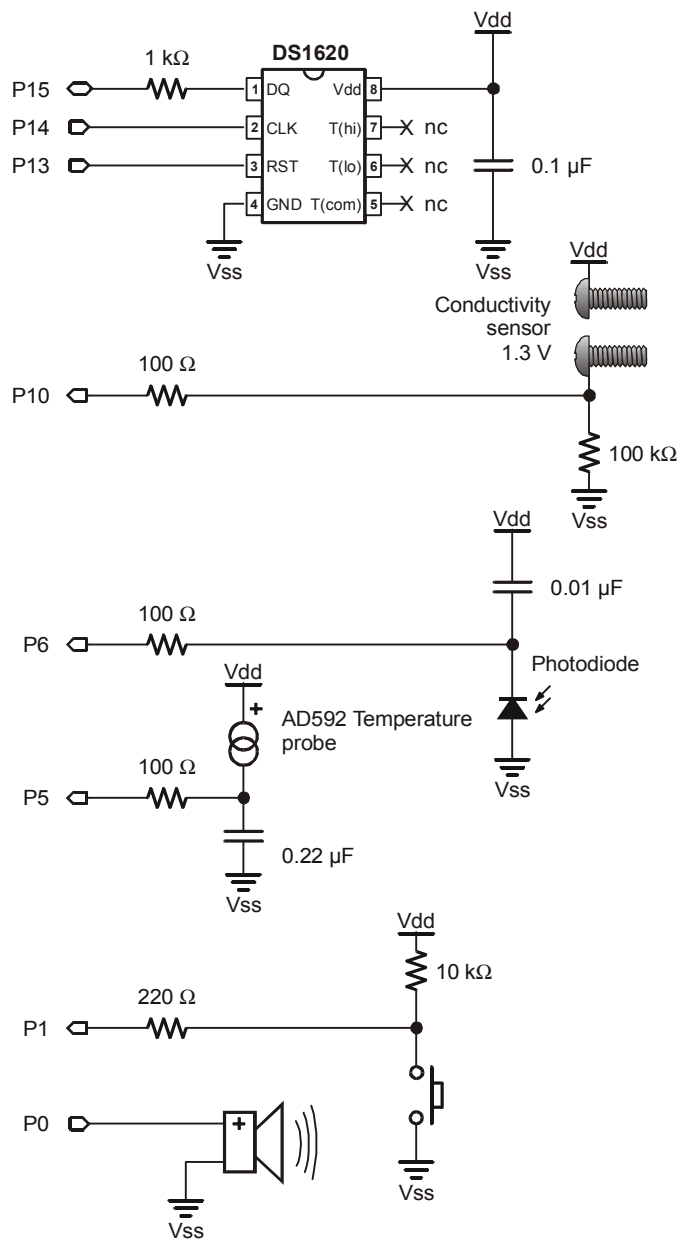
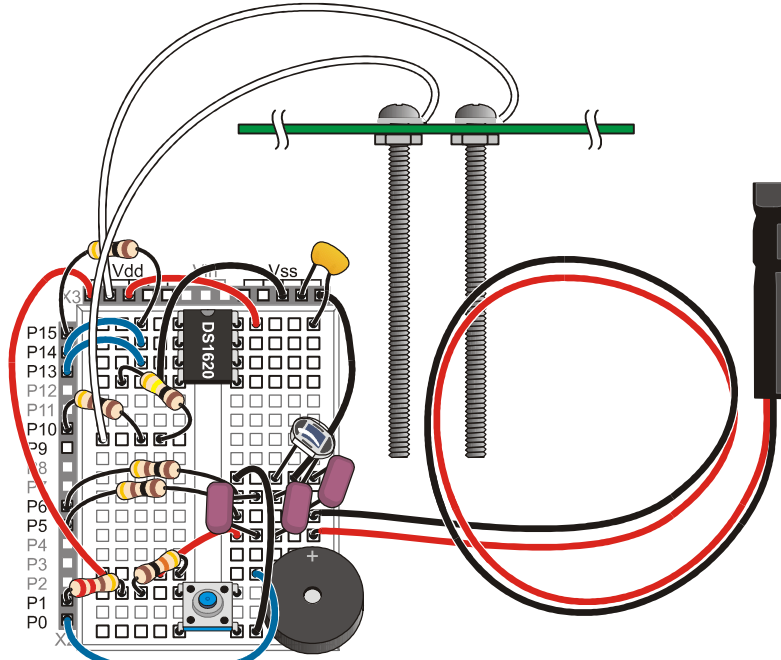

Figure 5-1
Figure 5-2: Conductivity Sensor Wiring Diagram
- ✓ Build the circuit shown in the schematic (Figure 5-1) and wiring diagram (Figure 5-2).